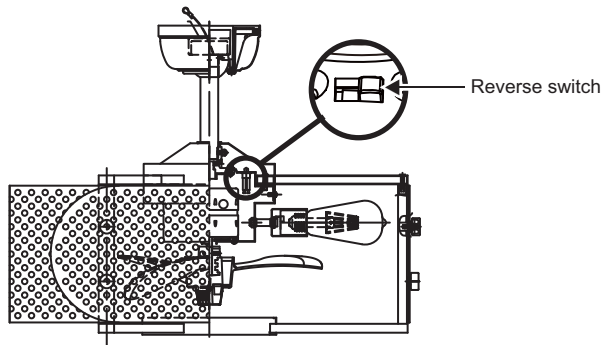

Fig. 21
**NOTE:** This control system is NOT designed to "Reverse" the rotation of the blades. To set the fan blades in reverse, the reverse slide switch is located on the top of the motor housing (inside the coupler cover as show in Fig. 21).